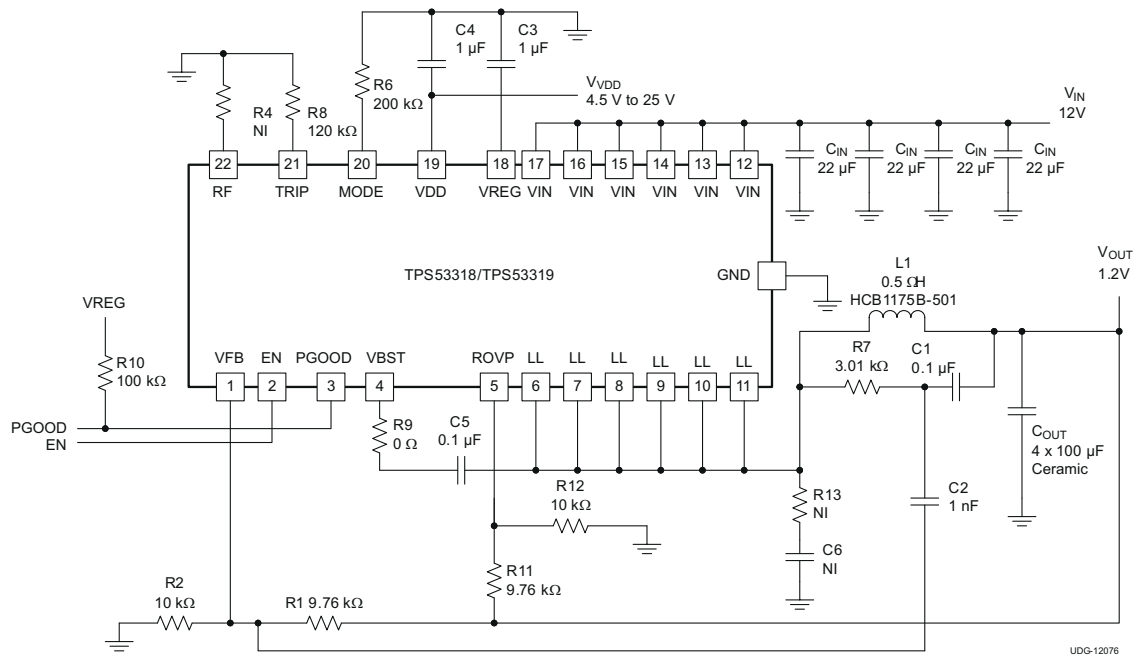

图 9-12. Typical Application Circuit, Redundant OVP Enabled
The redundant overvoltage level is programmed according to the output voltage setting, it is controlled by resistors R11 and R12 as shown in 图 9-12. Connect resistor R11 between the ROVP pin and the output, and connect resistor R12 between the ROVP pin and GND. This design recommends that the value of resistor R11 match the value of resistor R1 (or slightly higher), and that the value of resistor R2 match the value of resistor R12.
- Connect the ripple injection V_{OUT} signal (V_{OUT} side of the C1 capacitor in 图 9-12) from the terminal of ceramic output capacitor. The AC coupling capacitor (C2 in 图 9-12) should be placed near the device, and R7 and C1 can be placed near the power stage.